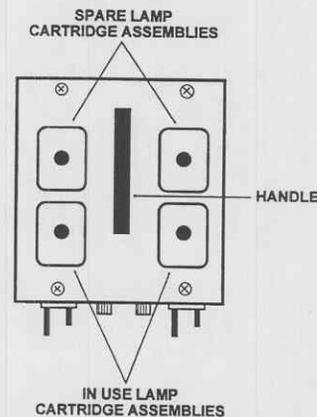

Figure 2-2. Lamp cartridge assemblies locations.
c. *"REPLACE SPARE LAMP" indicators.* A red indicator illuminates when the endoscopic instrument light is turned on and the applicable lamp in the spare lamp cartridge assembly (fig 2-2) is missing, burned out, or broken. The spare lamp cartridge assemblies are located on top of the endoscopic instrument light behind the in use lamp cartridge assemblies.